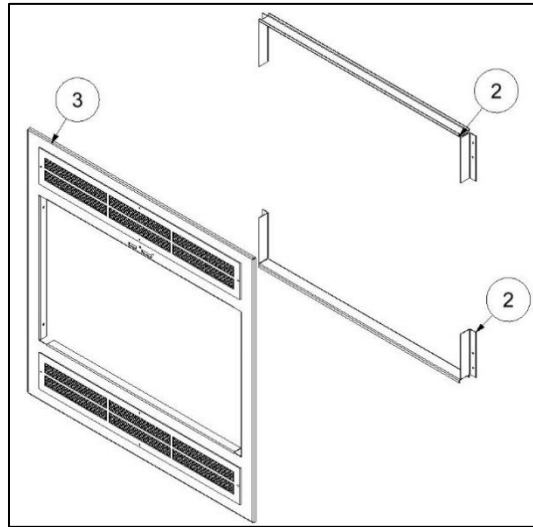

Figure 3-12: Traditional Surround Components
The traditional surround comprises louvers below (intake) and above (outtake) the door. All components and fasteners are included in the surround kit. Refer to Figure 3-12 Table 3-2 for the instructions below.
4. Place the surround (Item 3 in Figure 3-12) within the door holder and secure it in place with four black screws (one on each corner). Make sure that the handles of the Combustion Air Control pass through the slots of the surround.